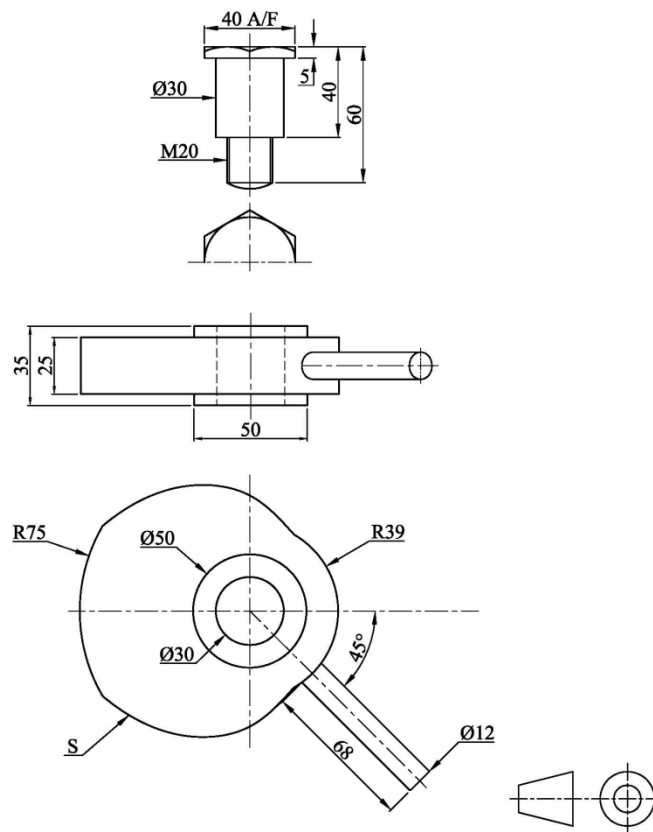

Figure 7b
- (6)
b) Draw an isometric view of the cam profile, using the details shown in Figure 7b. Place the point marked S as the lowest position of the cam.